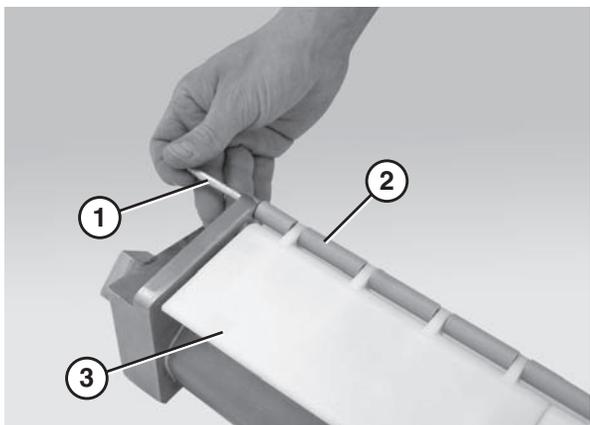

Figure 78
5. Remove the nose bar shaft (**Figure 78, item 1**), the rollers (**Figure 78, item 2**) and the roller mounts (**Figure 78, item 3**).